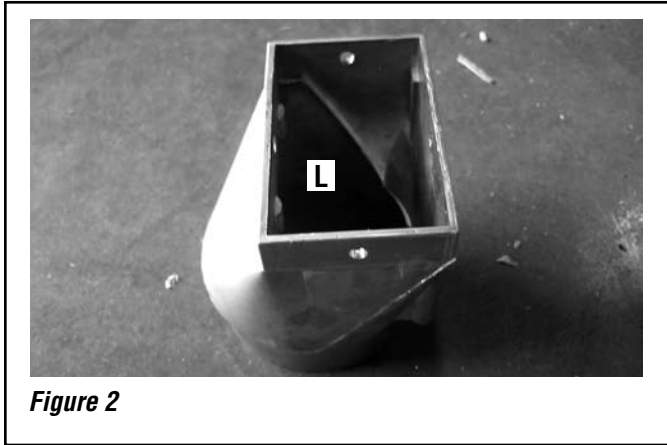

Figure 2
Step 1. For a rear vent termination, remove the flue clean out box on the PI40 pellet insert by removing the three screws (1 on top and 1 on both the right and left side) that hold it in place. Using these same screws, install the rear vent adapter (L) in place of the flue clean out box (see **Figure 2**).